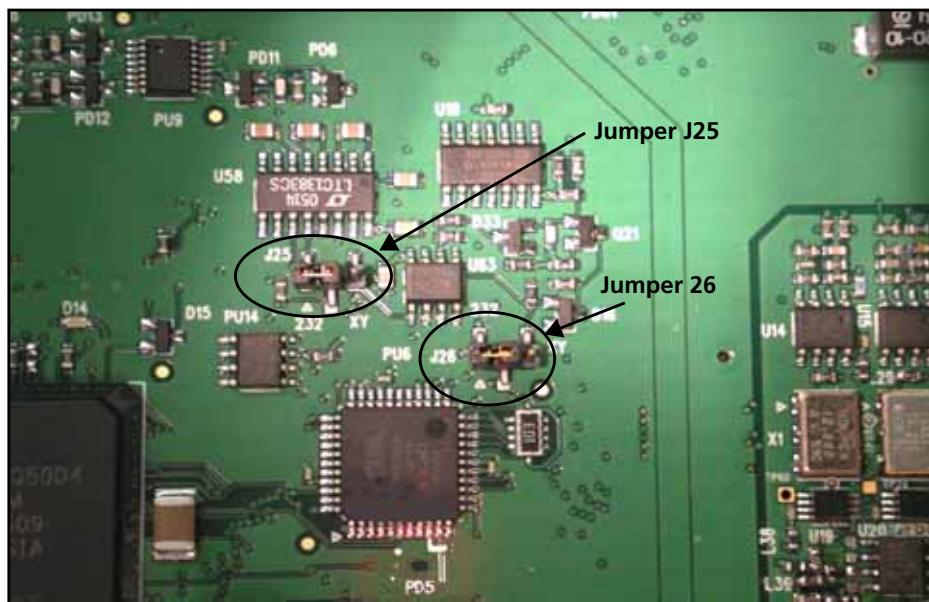

Figure 2-22 Jumpers for Serial Port A Format
- J25 and J26: Serial Port A (RS-232-A) format (see **Figure 2-22** for the location)